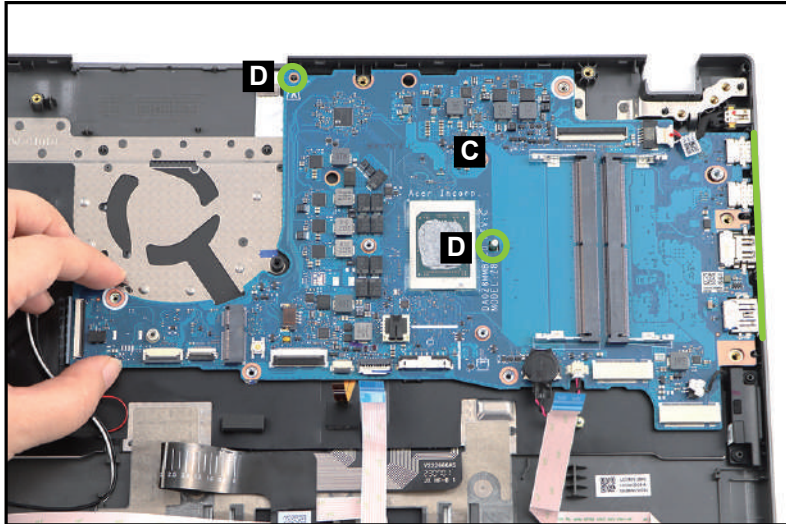

Figure 3-108. Replacing the Mainboard
3. Flip the mainboard. Then align and slide the I/O ports on the mainboard (C) into their slots on the top assembly (Figure 3-108).
4. Place the mainboard onto its compartment until it is fully seated and secured to the guide pins (D) (Figure 3-108).